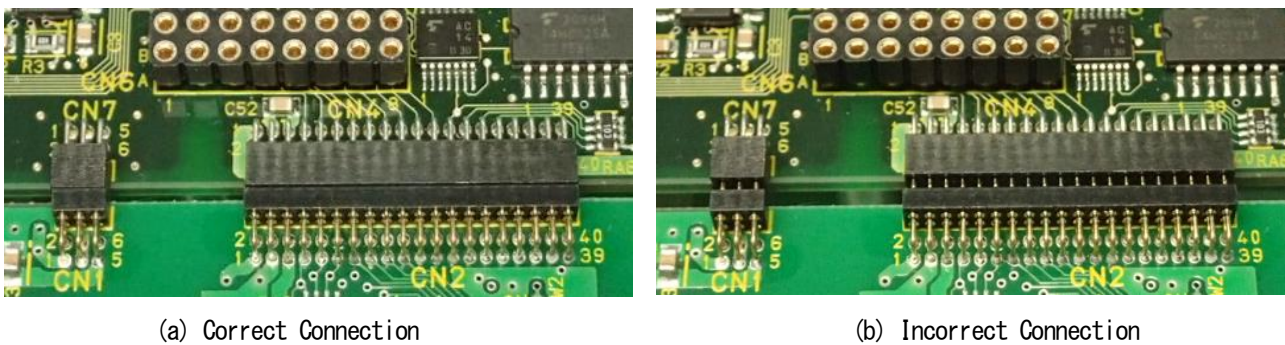

Figure 3.10 Connector
- (6) As shown in Fig. 3.10 (a), Align the pins of the EIP66-Z board connectors CN1 and CN2 with the VFC66-Z board connectors CN7 and CN4, push the EIP66-Z board to engage with the connectors. If the connectors are not connected properly, there will be a gap between the connectors as shown in Figure 3.10 (b).